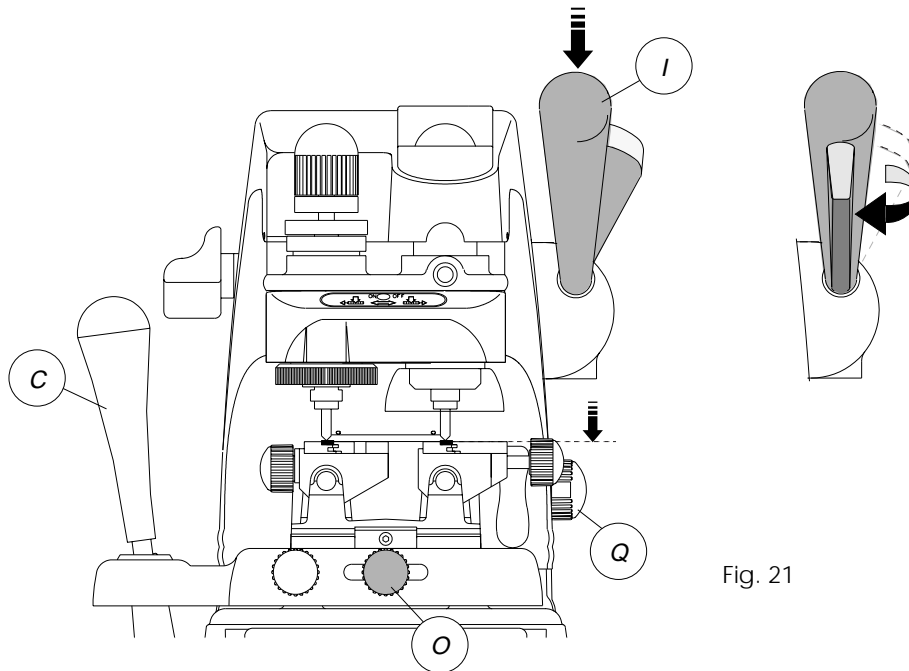
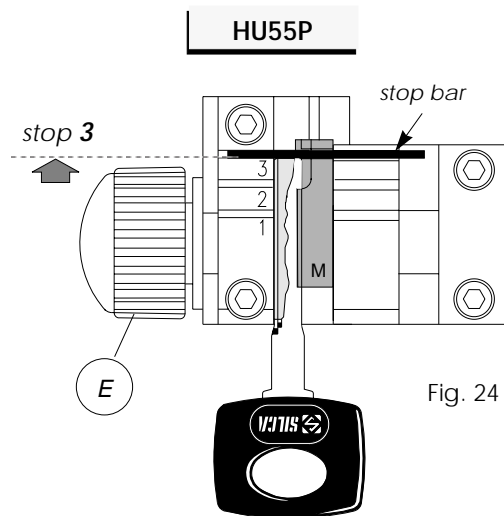

Fig. 21
Fig. 24
- secure the spindle at this height by turning the lever (I) clockwise (Fig.21).
- carry out the cuts using only the left-hand lever (C).
- place the adapter on the left-hand jaw and align the notch with "stop 3" (Fig.24).
- secure the adapter and key by tightening knob (E).
- before switching on the commutator (Q), lower the lever (I) towards the keys and register the Laser (sidewinder) key spring system (ch.5.2).
- start cutting by turning the commutator (Q).
- carry out the cuts using only lever (C).
- activate the Laser (sidewinder) key spring system with knob (O) (ch.5.2 - central cutting).
- switch on the commutator (Q), lower the spindle and position on the beginning of the cut (ch.6.4).